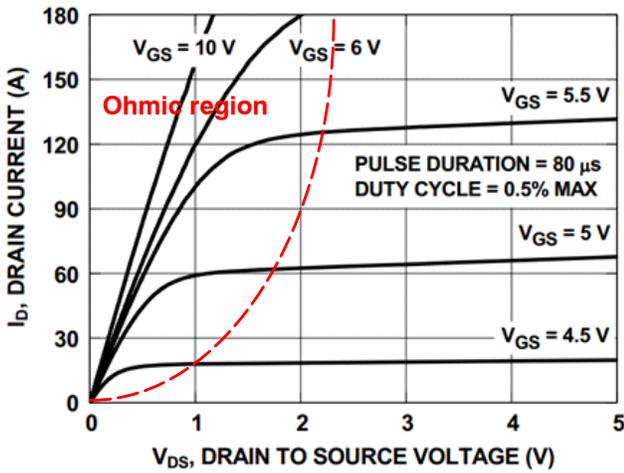

Figure 8. On-Region Characteristics
- d. Limited by the thermal run away in the linear region, Figure 8 shows the I_D as the function of the V_{DS} at a given V_{GS} . The on-state operation of a MOSFET is divided into the ohmic region and the linear region, defined by $V_{DS} = V_{GS} - V_{GS(th)}$ as the boundary line. In the ohmic region, located to the left of the boundary line ($V_{DS} < V_{GS} - V_{GS(th)}$); the I_D is defined by Ohm's law and increases linearly with the incremental drain voltage. In the linear region, to the right of the boundary line ($V_{DS} > V_{GS} - V_{GS(th)}$); the I_D differs by the V_{GS} , not by V_{DS} . For example, when the V_{DS} is 4 V and V_{GS} is 4.5 V, the FDMS86101A operates in the linear region and its I_D stays at around 17 A. To increase I_D , a higher V_{GS} should be applied to the gate.